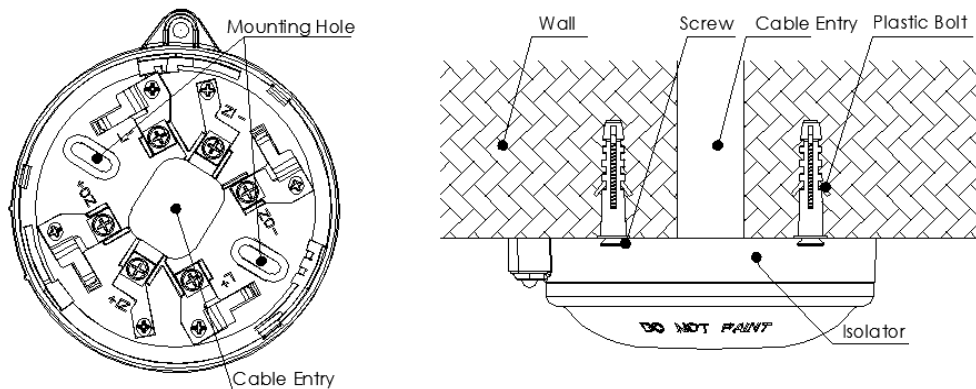

Figure 2 Wiring Diagram
3. Figure 2 is the installation of the isolator. The isolator can be Installed on the wall with screws through the mounting holes. The wires are connected to the terminals of the isolator through the cable entry.